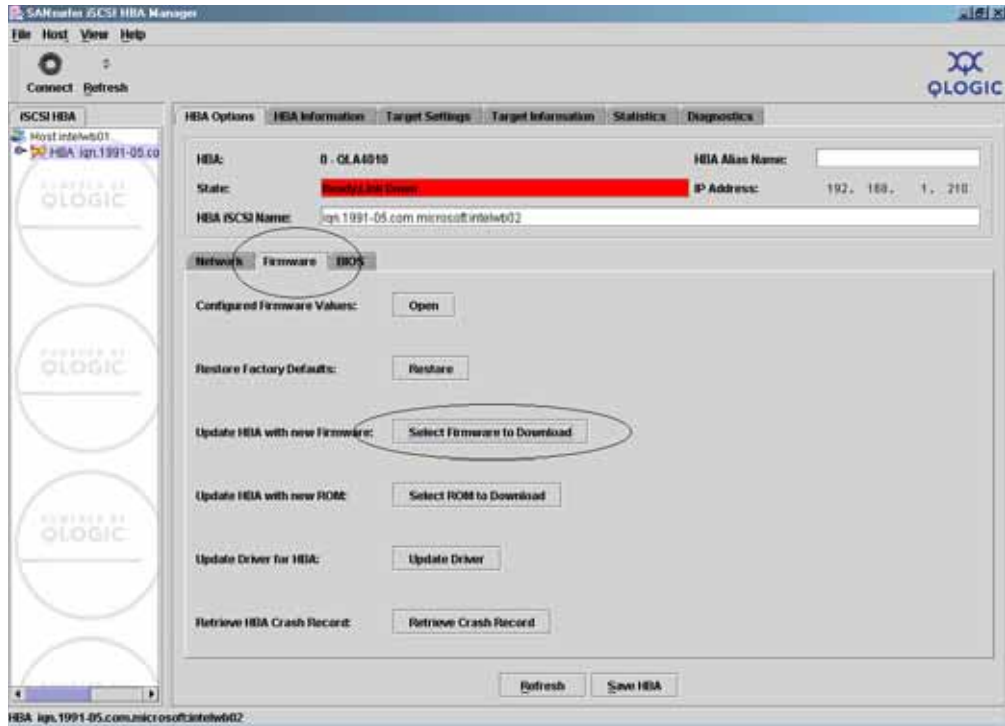

Figure 116 SANsurfer iSCSI HBA Manager, HBA Options, Firmware tab
1. Click the **Firmware** tab on the **HBA Options** dialog, as shown in Figure 116.